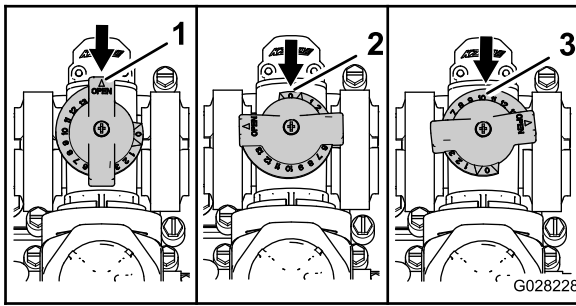

Figure 47
- The agitation-bypass valve is in the full OPEN position as shown in A of Figure 47.
- The agitation-bypass valve is in the CLOSE (0) position as shown in B of Figure 47.
- The agitation-bypass valve is in an INTERMEDIATE (adjusted relative to the pressure gauge for the sprayer system) position as shown in C of Figure 47.